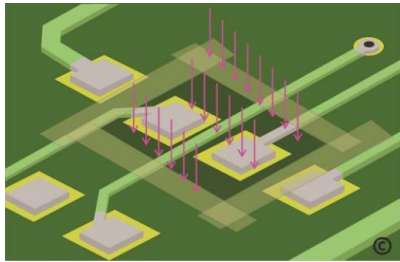

Fig. 3.11
3. using the replacement UV-curable solder mask material apply this to the areas requiring repair. If desired, add colour agent to the mixed epoxy to match the circuit board colour (**Fig. 3.11**)